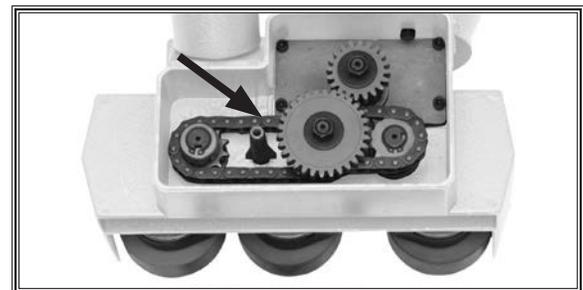

Figure 14. Sprockets, chain, and change gears
- To prevent rust, binding, and dry spots, paint the sprockets, chain, and change gears (**Figure 14**) with a light film of automotive grade GL-2 grade grease.